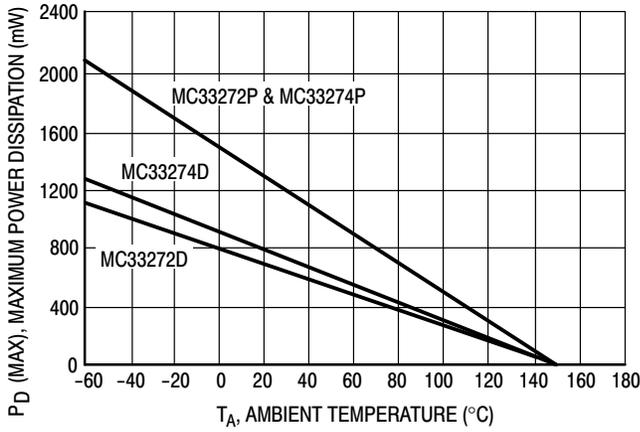

Figure 2. Maximum Power Dissipation versus Temperature
2. Power dissipation must be considered to ensure maximum junction temperature (TJ) is not exceeded (see Figure 2).